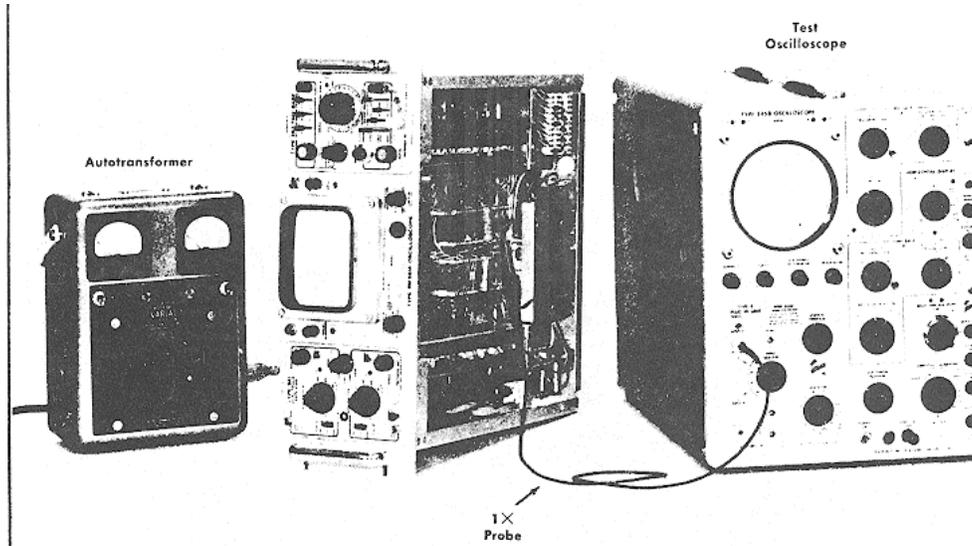

Fig. 6-10. Test equipment setup for power-supply ripple measurements.
a. Test equipment setup is shown in Fig. 6-10.